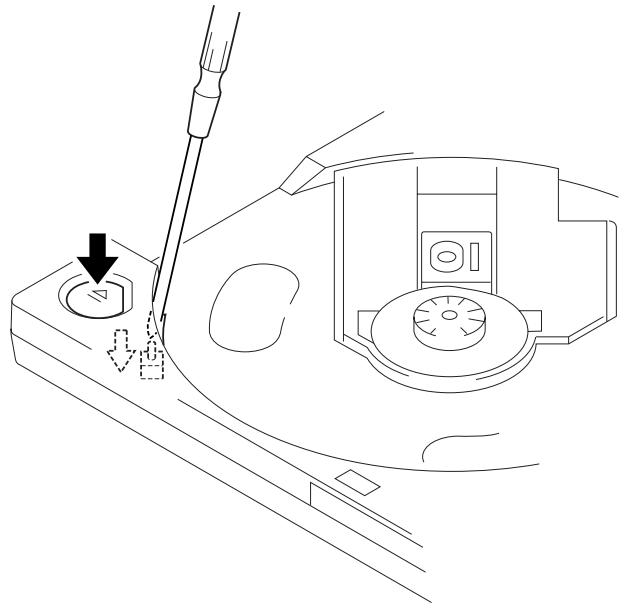

Fig. 1 Method to push the S423
2. Push the S423 as shown in Fig. 1.